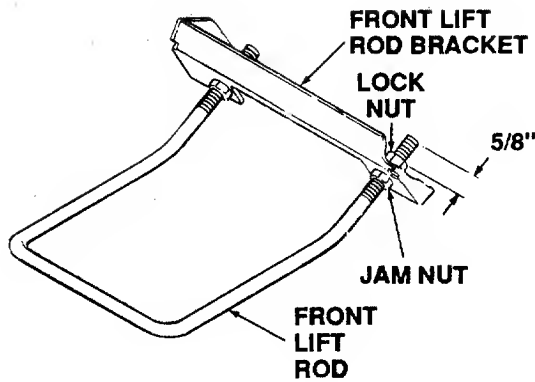

Figure 33
3. Initially adjust the front lift rod to allow 5/8 inch of thread to protrude above both lock nuts of the front lift rod bracket (Refer to Figure 33).
6. To adjust the downward tilt of the blades, adjustment of the front lift rod is required. Refer to Figure 33 and proceed as follows: